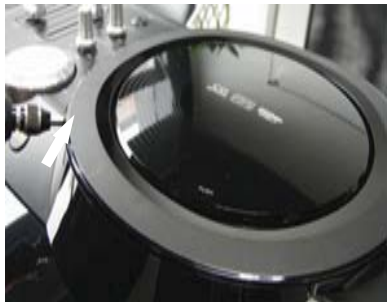

Figure 1
- 1) Upward the apparatus as shown in figure1